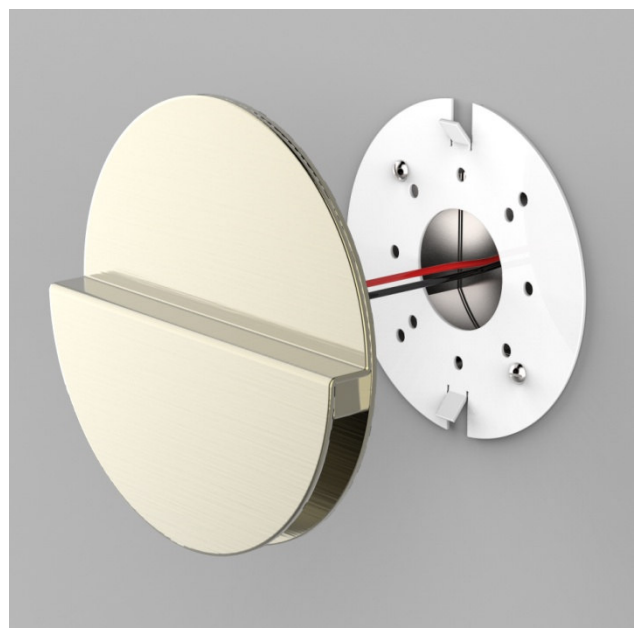

Figure 2
- While holding fixture, make LED wiring connections with included connectors. (Figure 2)